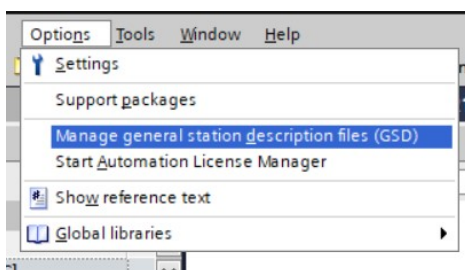

Figure 4-1-1-2 Installing GSD file
3. Install the GSD file, open TIA Portal V17, and select "Options" > "Support Device Description File (GSD)" from the menu bar, as shown in Figure 4-1-1-2: